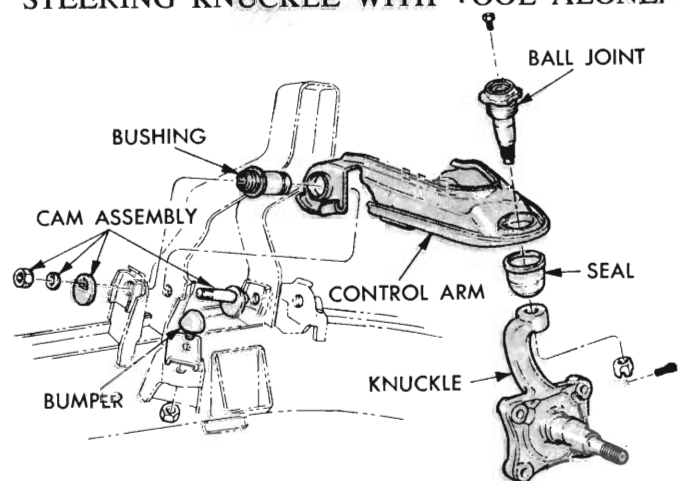

Fig. 16 - Upper control arm assembly ND 54C
(5) Remove the nuts, lockwashers, cams and cam bolts that attach the upper control arm and bushings (Fig. 16) to the front and rear support brackets. Lift upper control arm up and away from support.
(1) Slide the upper control arm into position and install the control arm cam bolts (Fig. 16),